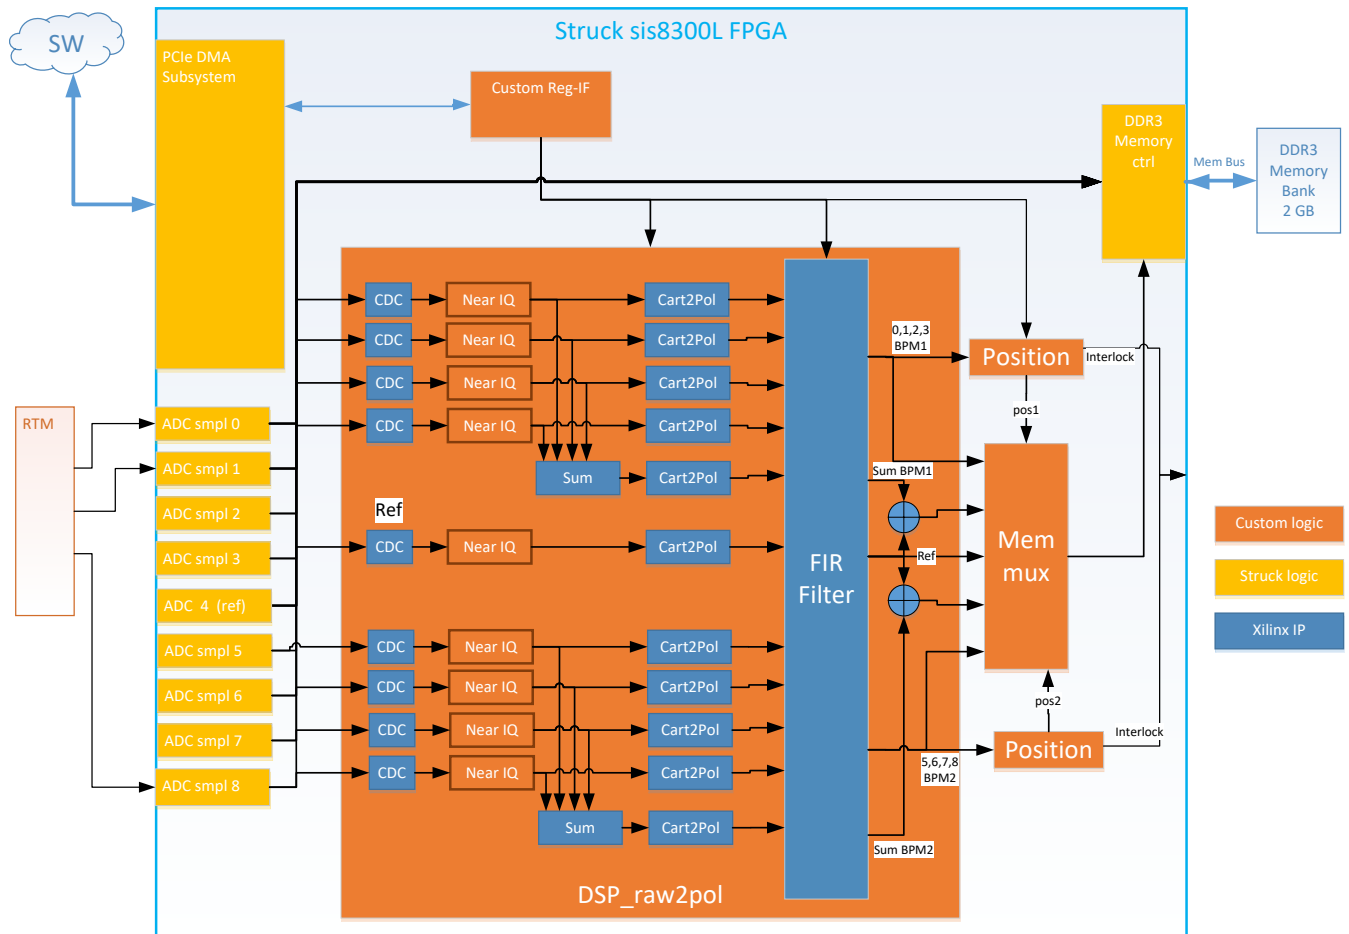

Figure 6, BPM custom logic overview.
The custom implementation of the LLRF controller is implemented in the FPGA on the Struck Digitizer board. It's implemented as an add-on to the provided FW from Struck. An overview of the Custom Logic (CL) is shown in **Figure 6**.